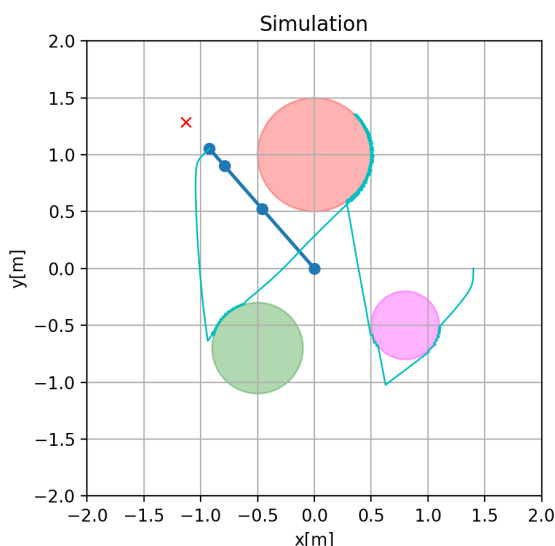

Fig 1. Simulation of the manipulator, including end-effector goal and obstacles.
- 3) Plot presenting the visualisation of the robot structure in motion (see Fig. 1).